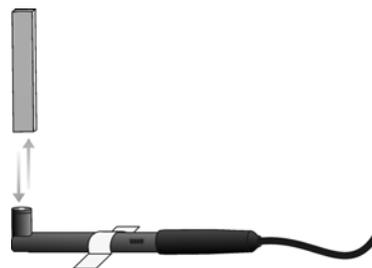

Figure 1
1. Tape the Magnetic Field Sensor to the table with the white dot facing up (see Figure 1). When placing your sensor, avoid things such as electrical wires, computer monitors, or metal brackets as these can interfere with your sensor.
5. Hold the magnet vertically about 20 cm above the Magnetic Field Sensor. One end of the magnet should be lined up with the white dot on the sensor as shown in Figure 1.